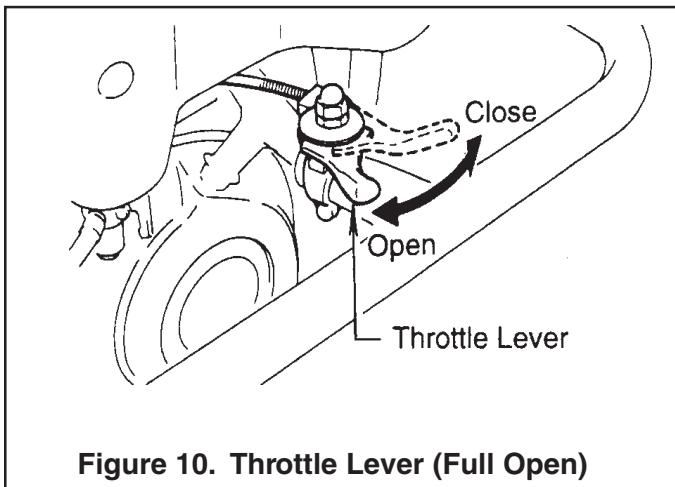

Figure 10. Throttle Lever (Full Open)
- To start the rammer tamping action, move the throttle lever (Figure 10) quickly from **IDLE** (close) to the **FULL OPEN** position. **DO NOT** move the throttle lever slowly as this may cause damage to the clutch or spring.